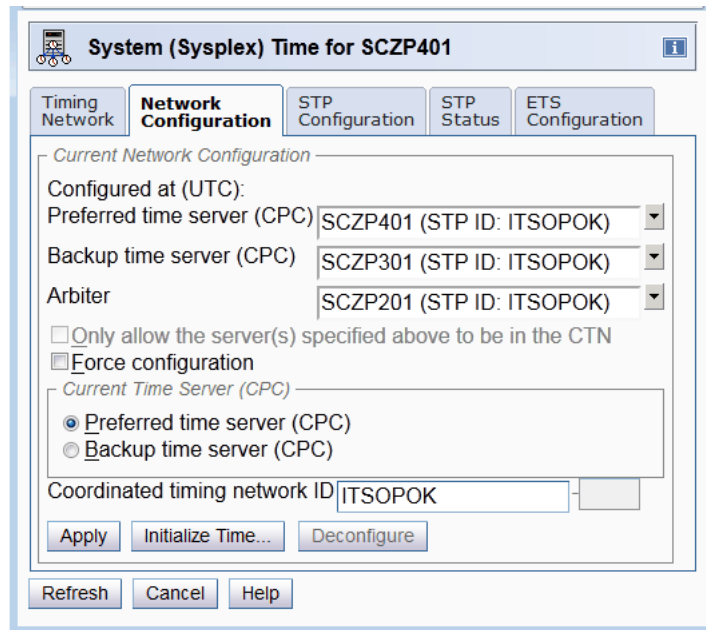

Figure 3-16 Assigning PTS, BTS, and Arbiter at CTN configuration time
3. For three or more servers in the CTN, you can also assign the Arbiter. For each of the roles (PTS, BTS, and Arbiter), there are drop-down boxes listing the STP-capable servers currently available to the HMC. In this case, the **Only allow the servers specified above to be members of the CTN** check box must be unchecked so that additional servers can be configured in the CTN (Figure 3-16 on page 89).